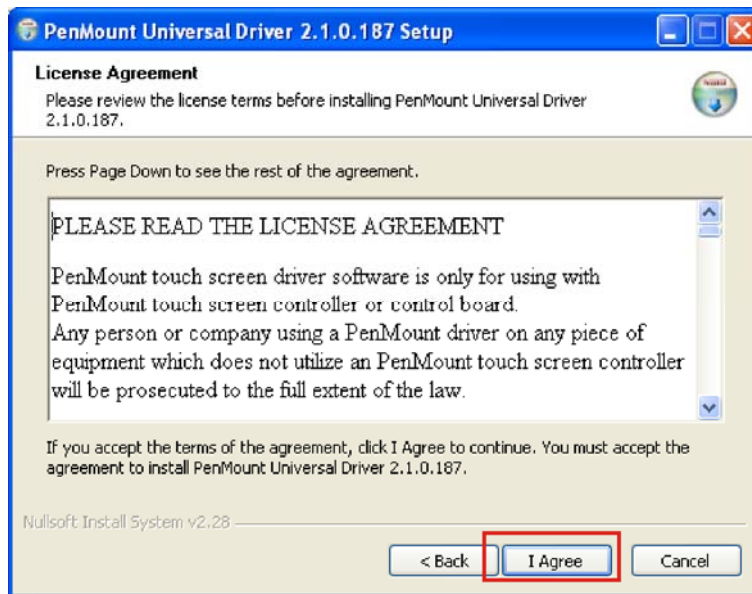

Figure 6-26: Touch Panel License Agreement
Step 5: The license agreement window appears (Figure 6-26).
Step 6: Read the license agreement carefully. Click **I AGREE** to accept the terms of the agreement and proceed with the installation (Figure 6-26).